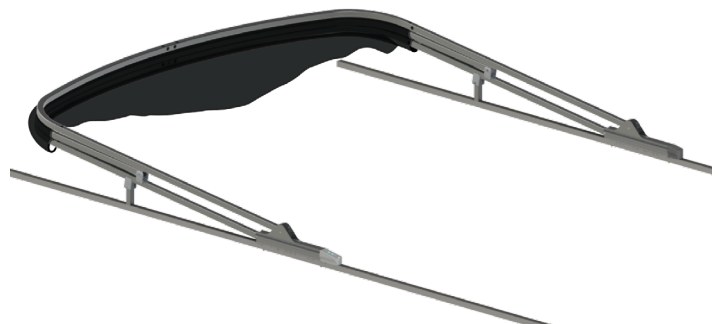

Fig.37
4. Place the rear frame and canvas in the down position (Fig.37).